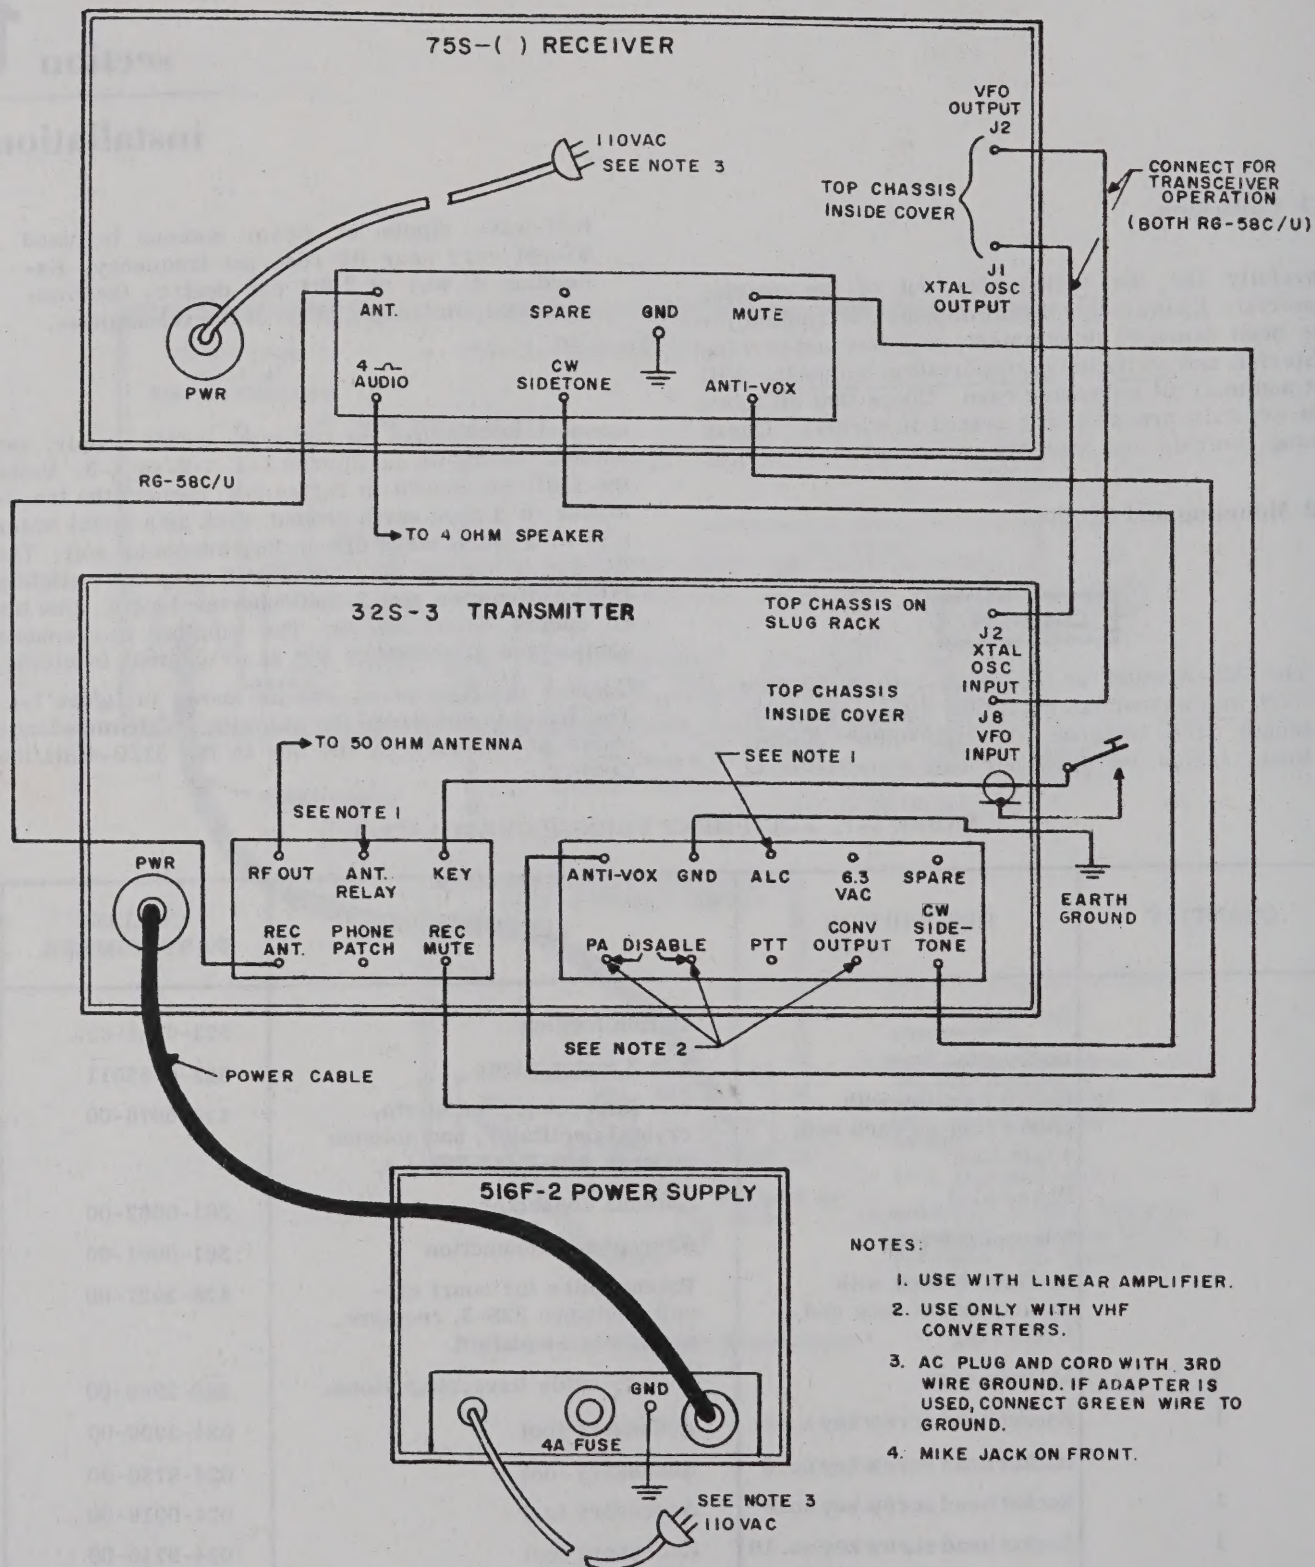

Figure 1-2. Receiver-Transmitter Interconnections
If the 32S-3 is connected with a 75S-() Receiver, as shown in figure 1-2, and it is desired to zero beat the 32S-3 to a frequency tuned on the receiver, set CW CAL knob to 3 o'clock, and gently push in on the shaft in the center of the CW CAL knob (13) while rocking the tuning dial across the receiver frequency. A signal will be heard as the 32S-3 CW CAL signal passes across the receiver frequency. Zero beat this signal by manipulating the 32S-3 tuning dial. The level of the CW CAL signal is adjustable with the CW CAL knob. Maximum output is obtained with the control rotated fully clockwise.
The tone oscillator output is fed to SIDETONE jack J19 when the key is closed. The SIDETONE ADJUST is a screwdriver control located under the top cover on a standoff bracket to the right of the vfo. With the 75S-() and 32S-3 connected as shown in figure 1-2, and the 75S-() audio gain control set in the desired position for CW operation, key the 32S-3, and adjust the SIDETONE ADJUST control for the desired level at the receiver audio output.
a. Transmitter and receiver must be connected as shown in figure 1-2.
d. Set zero set knob (3) on the 32S-3 so that hairline indicates same frequency as that of receiver.